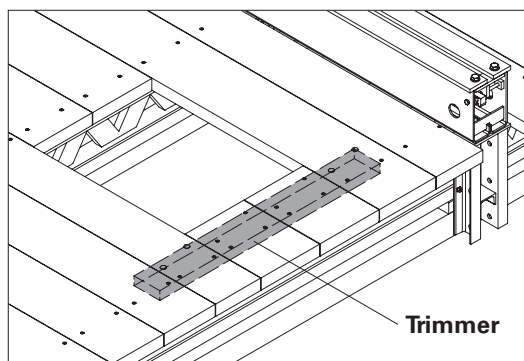

Fig. B3.03
- If the plank can only be fastened 1x to the platform beam, install a trimmer for fixing the planking. (Fig. B3.03)